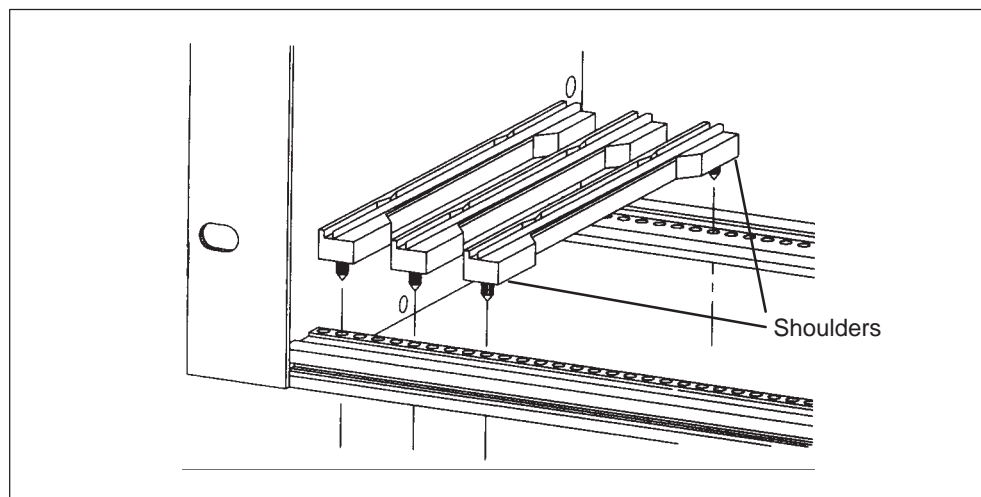

Figure 8-16 Connecting guide rails 6XB9623-1BE00
- As shown in figure 8-16, the shoulders of the rail point to the right (both top and bottom).